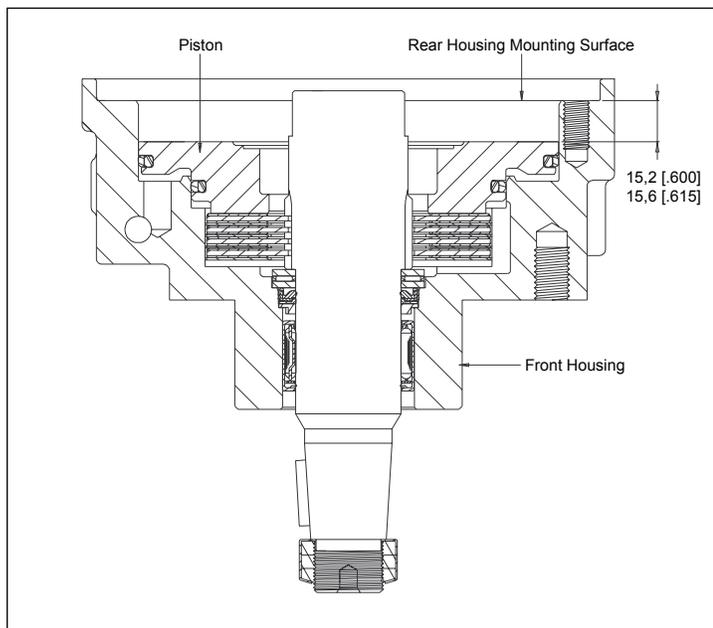

FIGURE 2
- H)** With pilot of front housing (14) facing up, lower front housing (14) over shaft and allow front housing (14) to rest on work surface. Grasping output end of shaft (34), place housing/shaft assembly in vise with output end of shaft (34) facing down. Insert a punch down into the center of the shaft and use a hammer to gently tap downwards on the shaft (34) to seat the shaft seal (3) into the front housing (14). Remove punch. Place one disk stamping (18) over shaft O.D. splines and down into front housing (14) followed by one friction disk (17). Repeat process, alternating disks until all disks are installed into housing.
- I)** Install small O-ring seal (4) and large O-ring seal (6) into corresponding grooves in piston (19). Install small seal (5) and large seal (7) in corresponding grooves over O-ring seals. Thoroughly coat seals and sealing surfaces of housing (14) with clean oil. With large O.D. side of piston (19) facing up, install piston (19) into housing (14) and evenly press piston down making sure not to pinch Teflon seals. (If friction disks and disk stampings are going to be replaced, the stack up on the new disks must be between 15,2 and 15,7 [.600 and .610]. Use FIGURE 2 for measuring reference.)
- J)** Install 25 springs (20) on top of piston. Install O-ring seal (8) in groove in rear surface of housing (14). If rear shaft bearing (21) and spacer shim(s) (22) came out of rear housing (23), reinstall at this time by placing spacer shim(s) (22) into rear housing (23) first followed by rear shaft bearing (21). Place rear housing (23) onto front housing (14) lining up bolt holes. While holding motor assembly together, remove motor assembly from vise and place in arbor press. Press down on rear housing (23) until it contacts front housing (14) and lock press. Install eight capscrews (24) and torque to 61,0 Nm [45 ft. lbs.].
- K)** Insert the drive link (25) into the shaft with the tapered end facing up. Place a body seal (9) into the groove in the face of the rotor assembly (26). With the seal side of the rotor assembly (26) facing the rear housing (23), line up the splines of the drive link (25) and the rotor assembly (26) and lower the rotor assembly onto the rear housing (23).